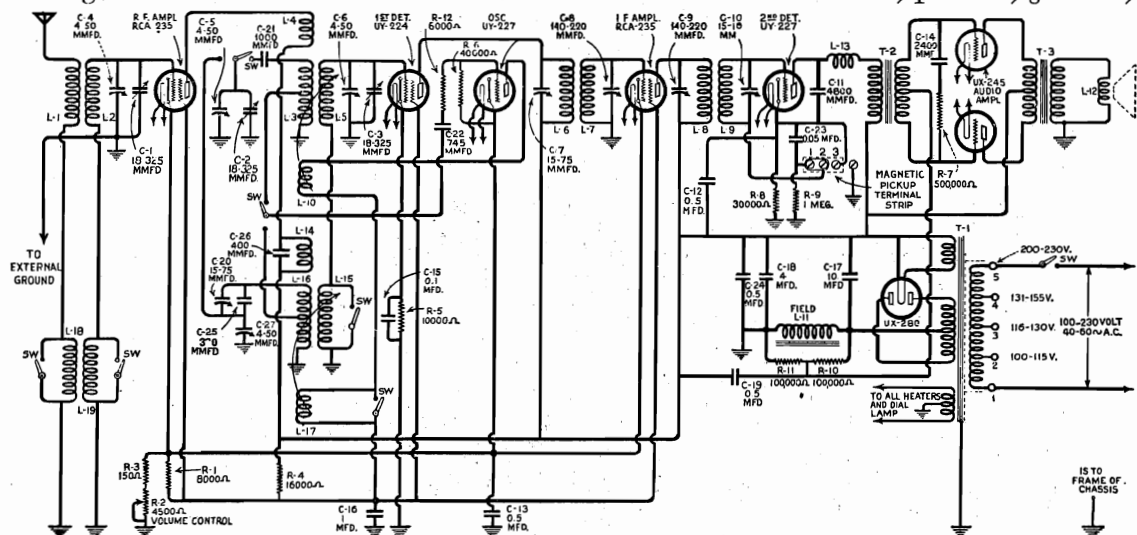
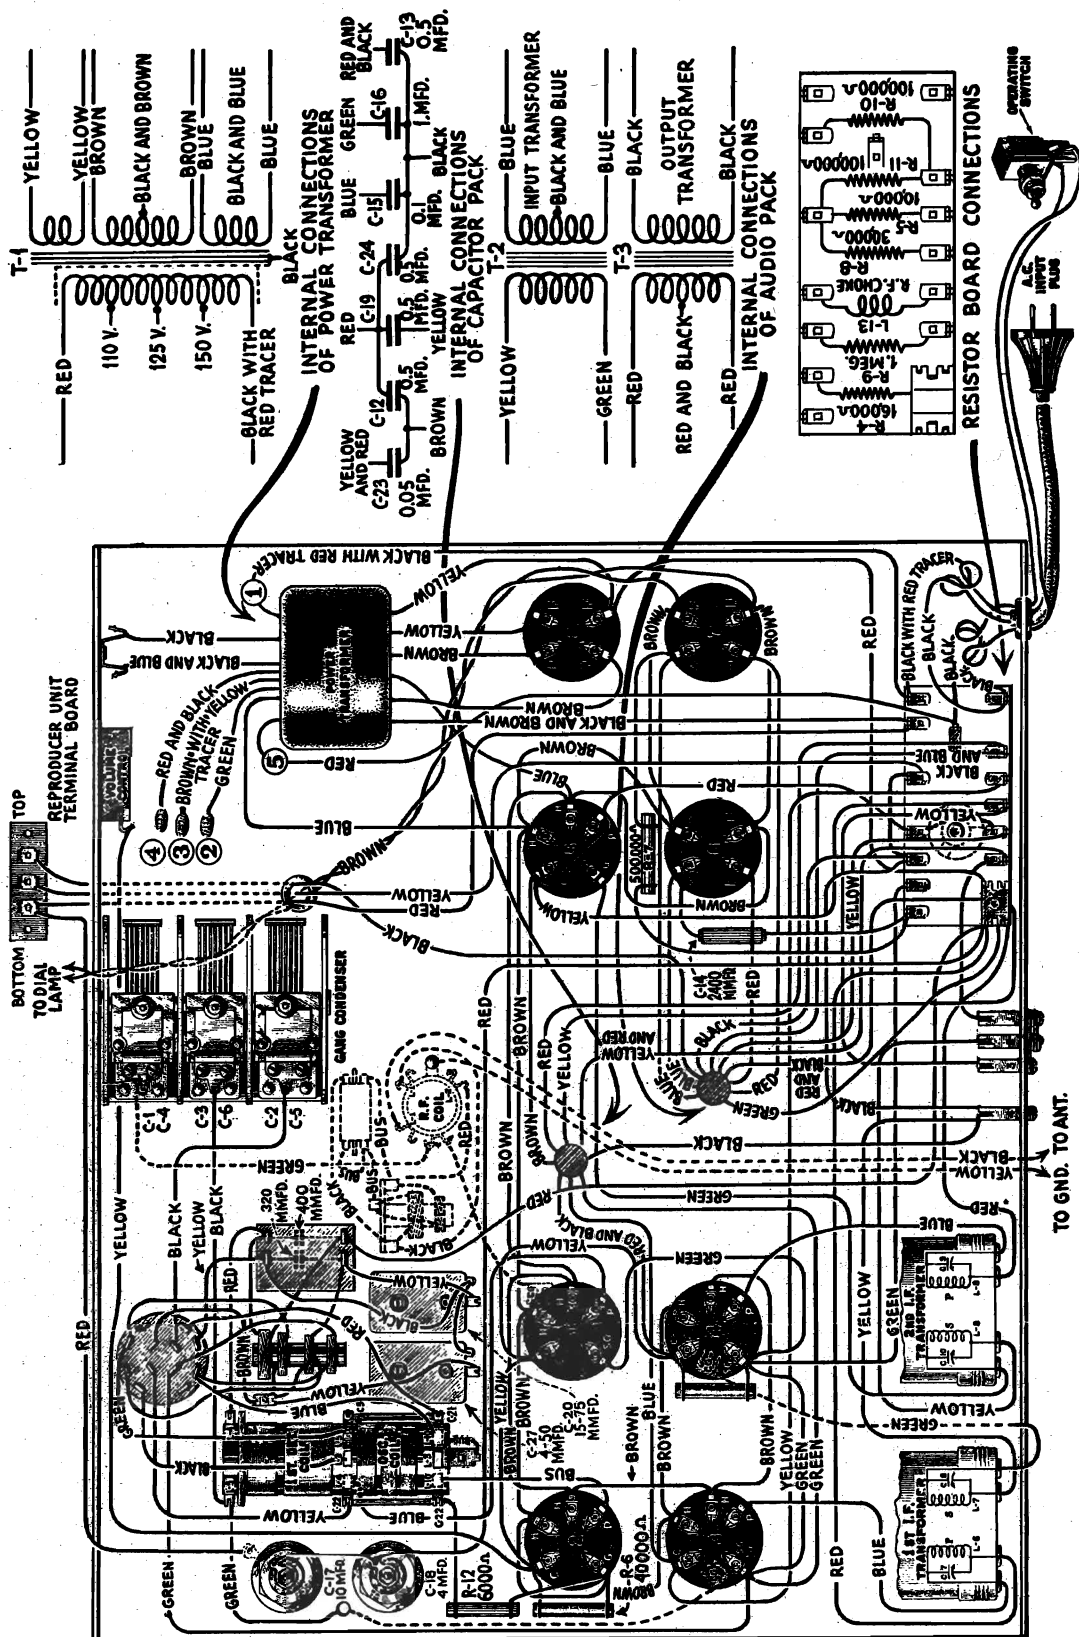
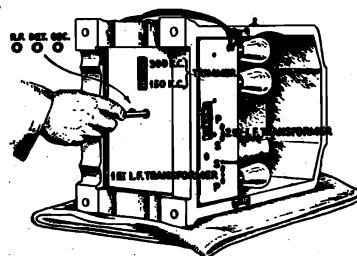
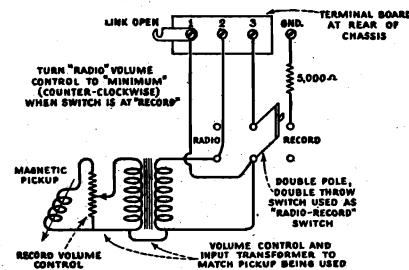

Figure 1—Schematic circuit diagram of R-7-LW
Figure 4—Wiring diagram of R-7-LW
Figure 2—Location of various line-up capacitors
Figure 3—Magnetic Pickup Connections
Figure 1 shows the schematic circuit diagram. Figure 2 shows the location of the various line-up capacitors. Figure 3 gives the correct connections for attaching a magnetic pickup to the R-7-L.W. and Figure 4 shows the wiring diagram. The voltage readings obtained at the Radiotron sockets with one of the usual set analyzers are given on page 3.
- (d) Now adjust the secondary and primary of the second and first I.F. transformers until a maximum reading is obtained in the output meter. See Figure 2. Go through these adjustments a second time as a slight readjustment may be necessary. When the adjustments are made, the set should perform at maximum efficiency. However, due to the interlocking of the adjustments, it is a good plan to follow the I.F. adjustments with R.F. and oscillator line-up condenser adjustments. The correct method of doing this is given in the following section.
- (e) With the socket wrench adjust the oscillator, first detector and R.F. line-up condensers until a maximum deflection is obtained in the output meter. (See Figure 2).
- (f) Set the oscillator at 300 K.C. Set the Selector Switch to the right for the low frequency band and tune in this signal with the receiver. Adjust the Volume control for a deflection in the output meter. Now adjust the 300 K.C. condenser Figure 2 until maximum output has been obtained. Rock the gang condenser back and forth while making this adjustment.
- (g) Set the oscillator at 150 K.C. and repeat as in (f) only adjust the 150 K.C. trimming condenser shown in Figure 2.